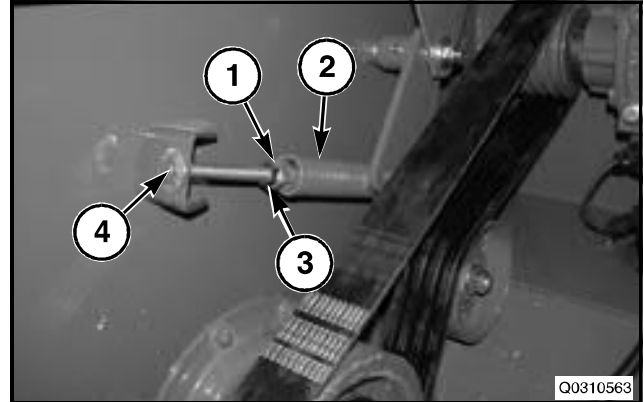

FIG. 17
FIG. 17: Hold the spring plug (1) in the tensioner spring (2) and loosen the jam nut (3) on the adjusting bolt (4). Adjust the spring so the dimension from the inside of the hook to the end of the spring plug is 200 mm (7.87 in). Hold the plug and tighten the jam nut.